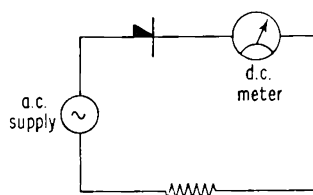

Fig. 263
A normal moving coil meter is not, by itself, suitable for measuring a.c. *Why not?* (3) Of course such a meter can be used if the a.c. is rectified first (Fig. 263).